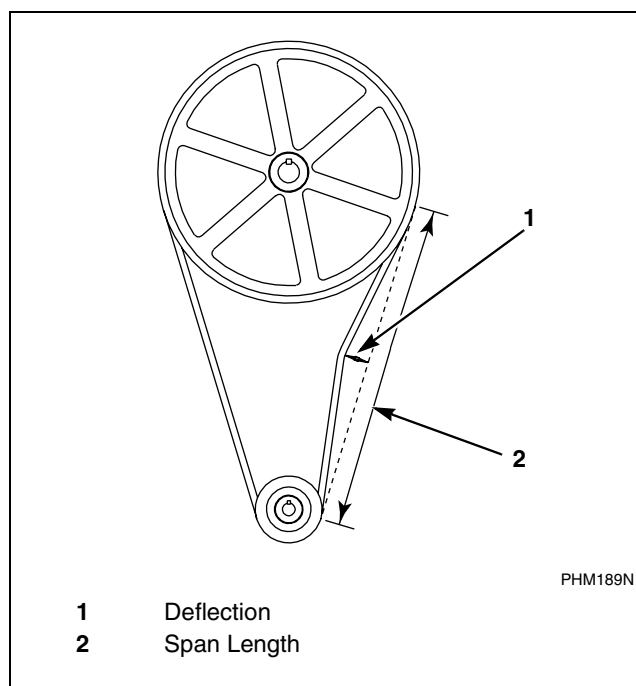

Figure 18
- **Deflection.** Refer to *Figure 18*. Loosen motor mounting bolts and slide motor along motor plate to change belt span length. Belt tension measurements should be taken as close to the center of the belt span as possible. For every inch of span length, the belt should deflect 1/64 in. (0.40 mm). Thus, a belt with span length of 50 in. should deflect 50/64 in. (19.84 mm). An initial (run-in) force of 7 lbs. should be used to set the belt tension. An operating (normal) force of 5 lbs. should be used after the washer-extractor has been operated for a few hours.